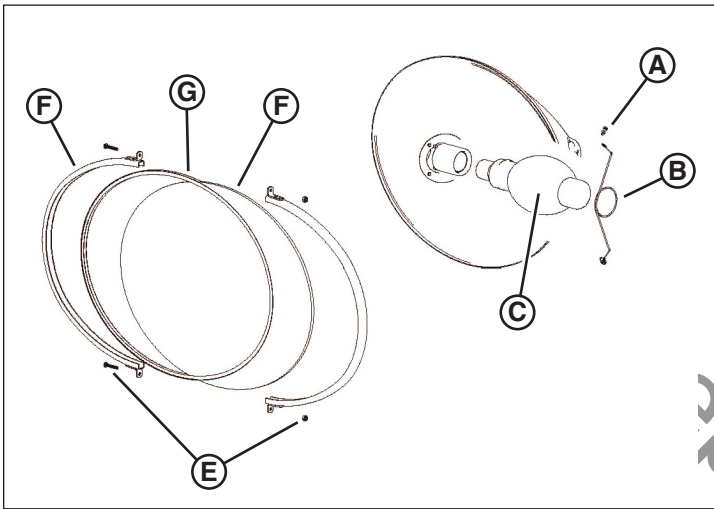

Figure 25
4. Loosen the lens channel screws (E, Figure 25) to allow the removal of the lens channel (F).
5. Remove the silicone gasket (G, Figure 25) and lens (H).
6. Remove the support clip screws (A, Figure 25) and support clip (B).
7. Carefully remove the old lamp (C, Figure 25), and install the correct replacement lamp. See **Specifications**.
8. Clean the reflector (D, Figure 25) and lens.